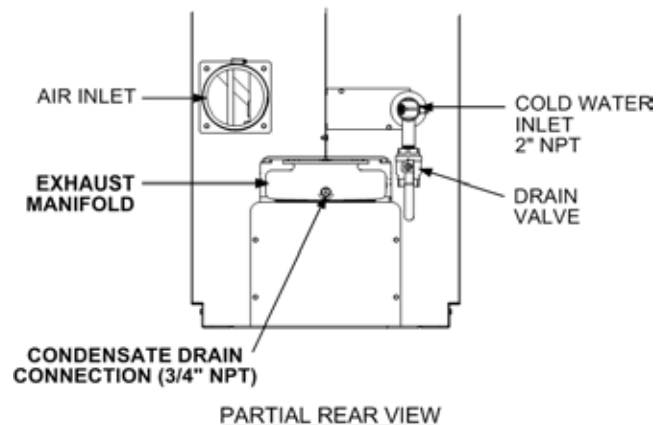

Figure 2-6. Condensate Drain Connection Location
The condensate drain port, is located on the exhaust manifold at the rear of the unit (Figure 2-6). This drain port must be connected to the Condensate Trap (part no. 24060) which is packed separately within the unit's shipping container. The Condensate Trap inlet and outlet connections contain tapped 3/4" NPT ports.
- The condensate trap inlet (Figure 2-6) must be level with, or lower than the exhaust manifold drain port.
For Massachusetts installations, a mandatory external gas supply regulator must be positioned as shown in Figure 2-6. The gas supply regulator must be properly vented to outdoors. Consult the local gas utility for detailed requirements concerning venting of the the supply gas regulator.